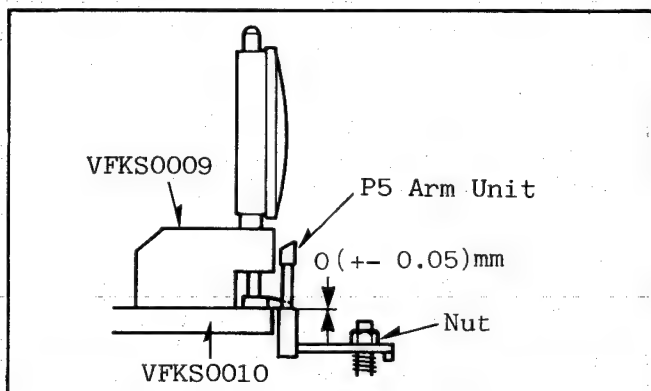

Fig. M23 Height Adjustment of P5 Arm Unit
5. Slightly raise the post by turning the nut counterclockwise. Place the foot to the post as shown in Fig. M23.